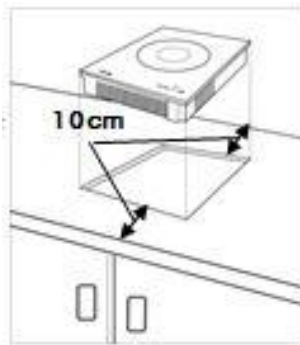

Figure 1
1. Cut an opening as shown in Figure 1.